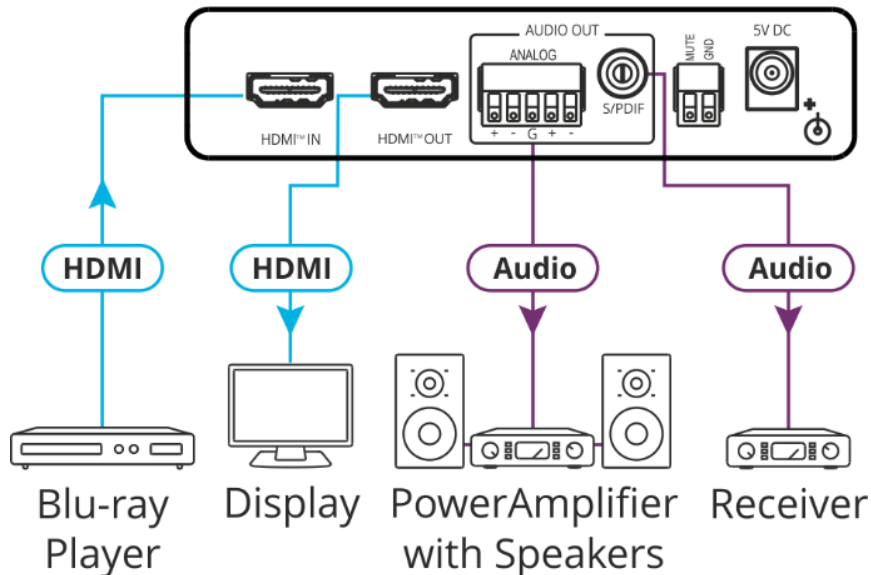

Figure 2: Connecting to the FC-46H2 Rear Panel
To connect the FC-46H2 as illustrated in the example in Figure 2:
1. Connect an HDMI source (for example, a Blu-ray player) to the HDMI™ IN connector (6).
2. Connect the HDMI™ OUT connector (7) to an HDMI acceptor (for example, a display).
- The ANALOG 5-pin terminal block connector (8) to an analog audio acceptor (for example, a power amplifier with speakers).
- The S/PDIF RCA connector (9) to a digital audio acceptor (for example, a receiver).
4. Connect the MUTE (8) 2-pin terminal block connector to a contact closure switch (for example, Kramer RC-21TB, not shown in Figure 2).
5. Set the SETUP DIP-switches (2) on the front panel (see Setting the DIP-Switches on page 7).
6. Connect the power adapter to the FC-46H2 and to the mains electricity (not shown in Figure 2).